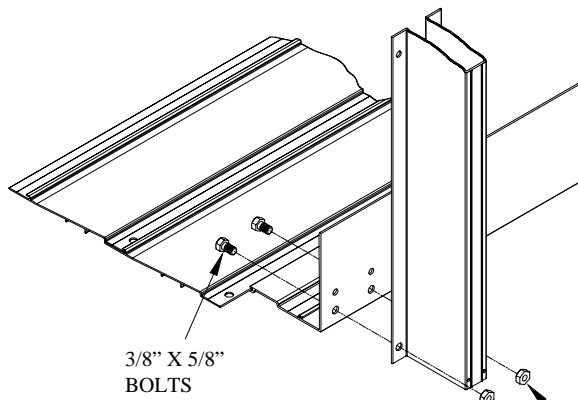

FIGURE 6
Step 7: Attach the transition uprights to the four corners of the bottom rail as shown in Figure 6.